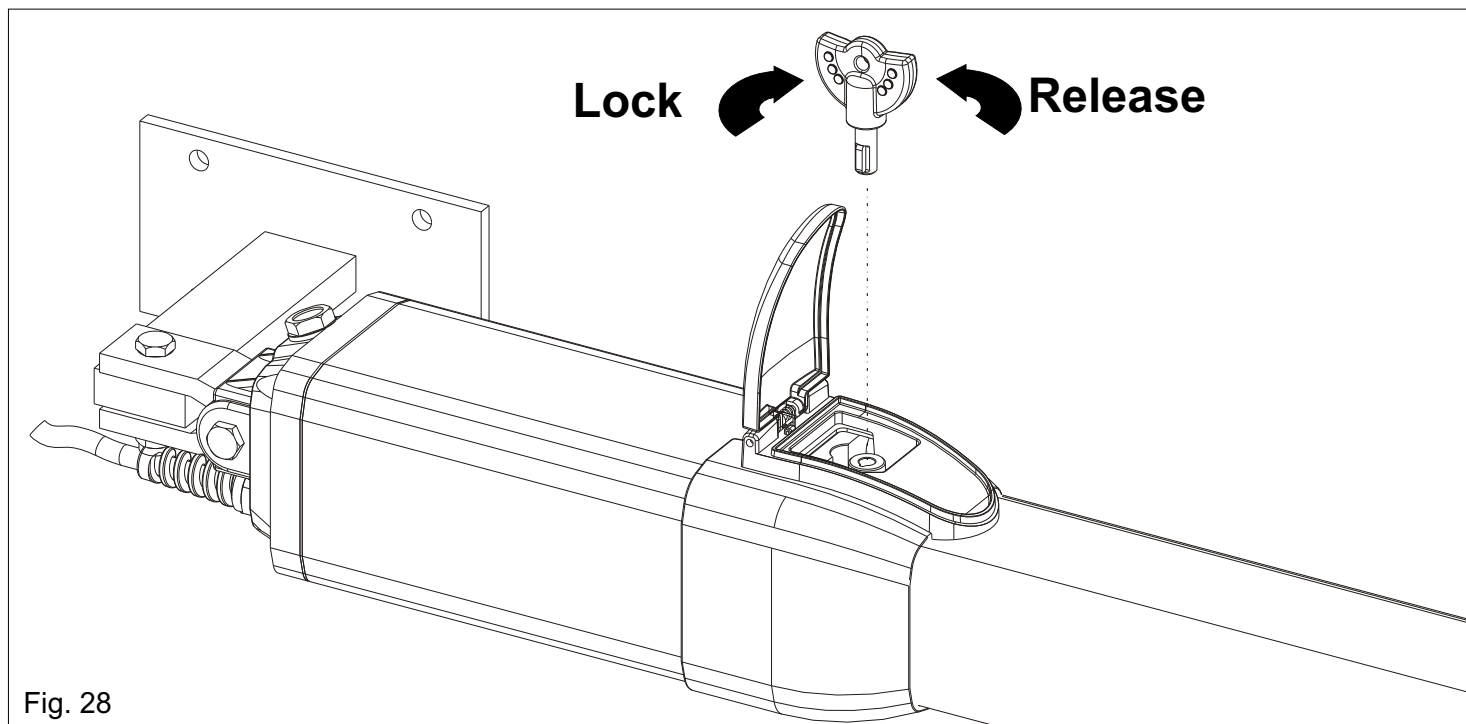

Fig. 28
-Insert the key and turn it about 180° anti-clockwise (Fig.28).
-Insert the key and turn it clockwise until it stops (Fig.28).